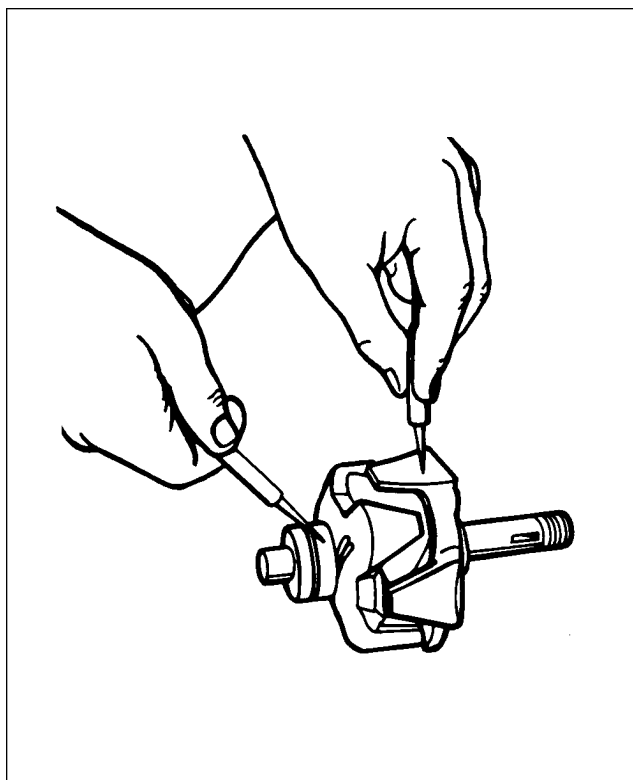
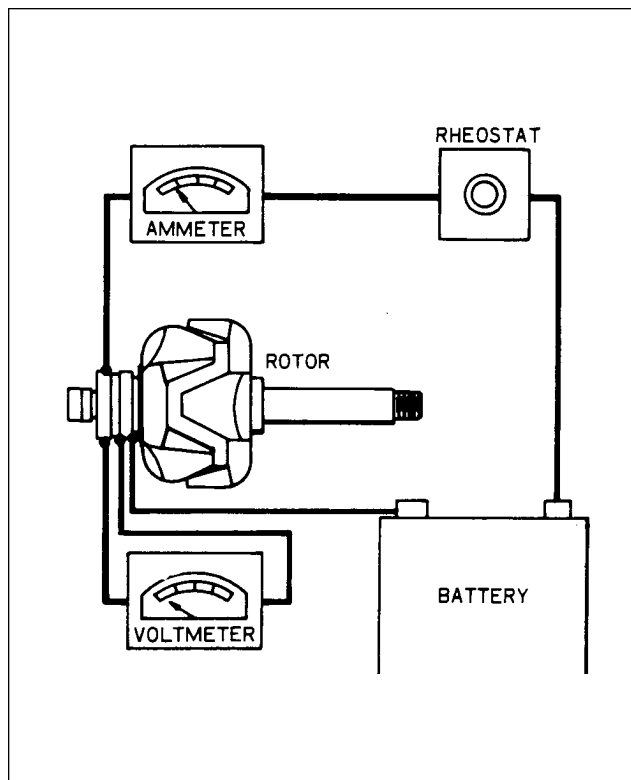

Figure 11-28. Testing Rotor for Ground
Figure 11-29. Testing Rotor for Shorts
- a. Rotor: The rotor should be tested for grounded or shorted windings. The ground test can be made with test probes, connected in series with a 110-volt test lamp, an ohmmeter or any type of continuity tester. (Refer to Figure 11-28.) There must not be any continuity between the slip rings and the rotor shaft or poles. To test for shorted turns in the rotor windings, connect a voltmeter, ammeter and rheostat as shown in Figure 11-29, or use an ohmmeter. Rotor current draw and resistance are listed in the Alternator Service Test Specifications paragraph. Excessive current draw or a low ohmmeter reading indicates shorted windings. No current draw or an infinite ohmmeter reading would indicate an open winding.